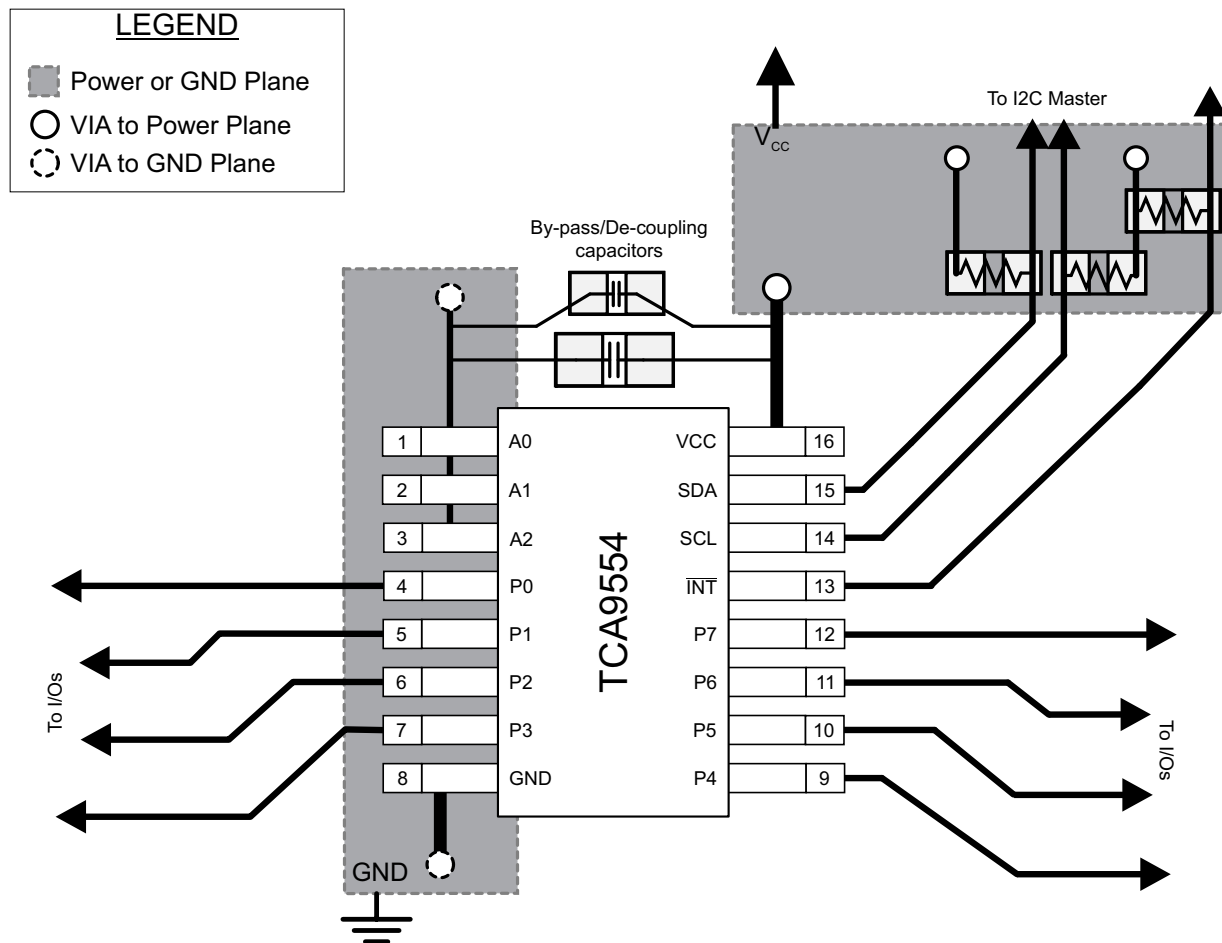

Figure 34. TCA9554 Layout
In all PCB layouts, it is a best practice to avoid right angles in signal traces, to fan out signal traces away from each other upon leaving the vicinity of an integrated circuit (IC), and to use thicker trace widths to carry higher amounts of current that commonly pass through power and ground traces. By-pass and de-coupling capacitors are commonly used to control the voltage on the VCC pin, using a larger capacitor to provide additional power in the event of a short power supply glitch and a smaller capacitor to filter out high-frequency ripple. These capacitors must be placed as close to the TCA9554 as possible. These best practices are shown in Figure 34.
For the layout example provided in Figure 34, it is possible to fabricate a PCB with only 2 layers by using the top layer for signal routing and the bottom layer as a split plane for power (V_{CC}) and ground (GND). However, a 4 layer board is preferable for boards with higher density signal routing. On a 4 layer PCB, it is common to route signals on the top and bottom layer, dedicate one internal layer to a ground plane, and dedicate the other internal layer to a power plane. In a board layout using planes or split planes for power and ground, vias are placed directly next to the surface mount component pad which needs to attach to V_{CC} or GND and the via is connected electrically to the internal layer or the other side of the board. Vias are also used when a signal trace needs to be routed to the opposite side of the board, but this technique is not demonstrated in Figure 34.